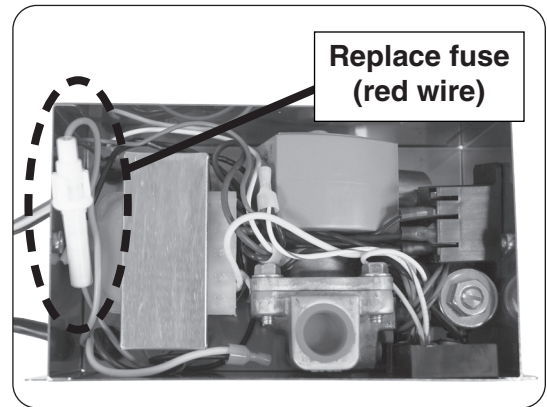

Fig. 47-2 Replace fuse
5. "Push in and twist" the fuse holder (red wire), exposing the fuse (see Fig. 47-2).